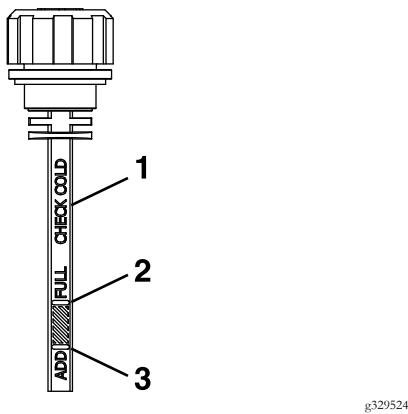

Figure 29
- Remove the cap again and check the level of the oil on the dipstick. See Figure 29 for oil levels.